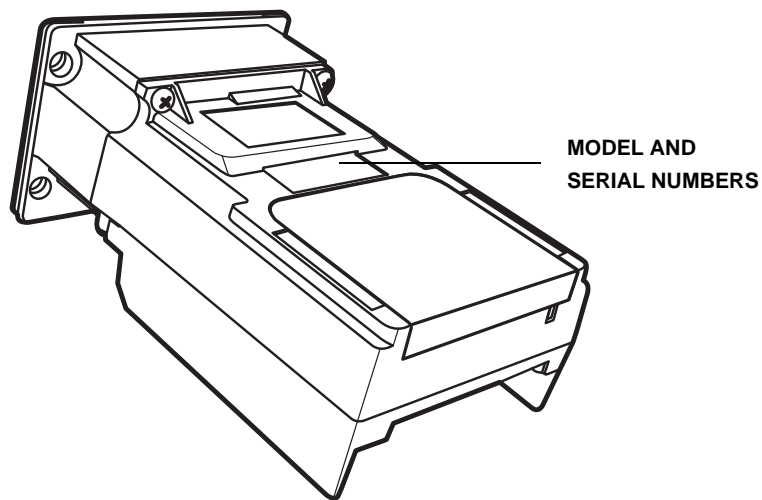

Figure 13 Information Labels on Unit Top
- 1 Gather the following information from the printed labels (see Figure 13) on the bottom of each unit to be returned:
- VeriFone serial number assigned to the unit you are returning for service or repair (serial numbers are located on the top of the unit, (see Figure 13).